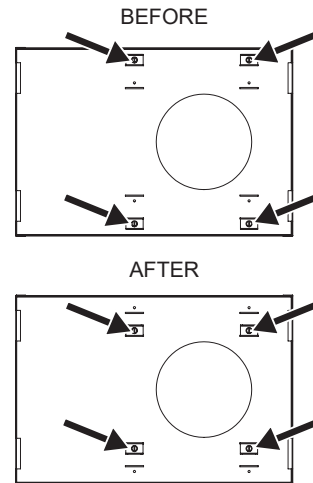

Figure 10. Bracket Relocation
8. Turn the Power Vent upside down. Using a 5/16" nut driver, relocate the mounting brackets as shown in Figure 10.